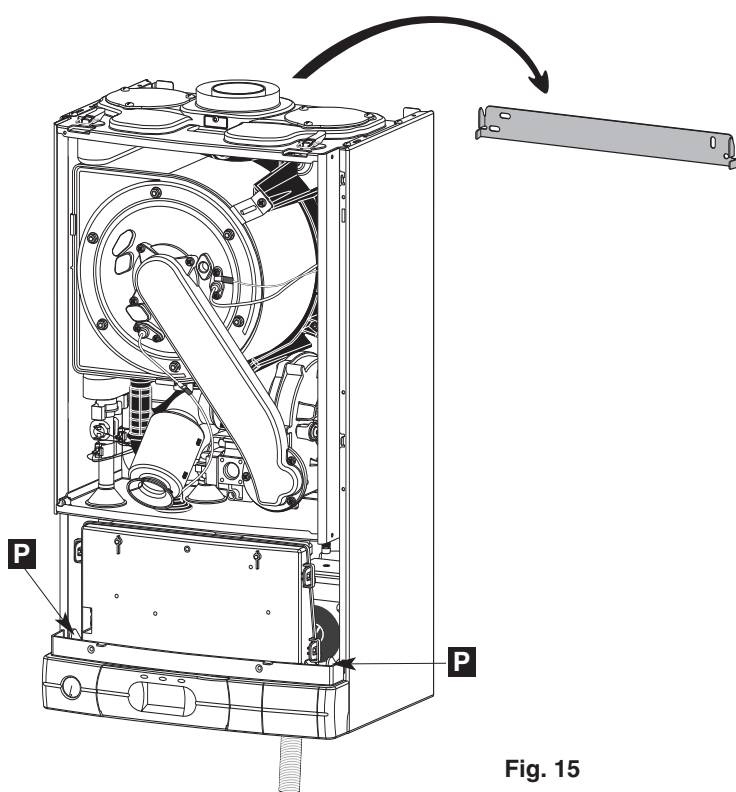

Fig. 15
Place the boiler on the wall on the hanging bracket (Fig. 15).
- Push in the tabs "**P**" (Fig. 15) on either side of the boiler and pivot the electrical box forward to gain access to the valve connections